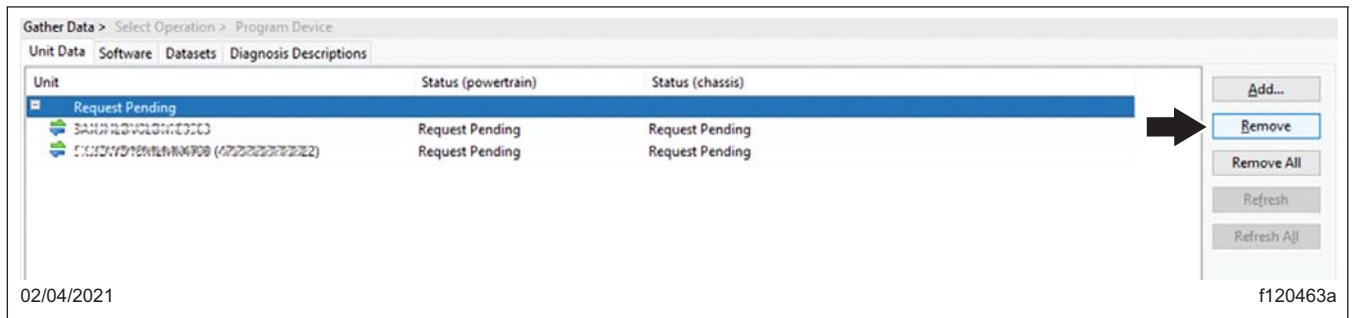

Fig. 4, Removing Pending Requests
- Remove any 'Request Pending' downloads and serial numbers in the main window by selecting the 'Request Pending' list item(s) and then selecting the 'Remove' button on the right-hand side of the window. Do not select 'Remove All,' selecting 'Remove All' deletes all data pending upload. See Fig. 4.